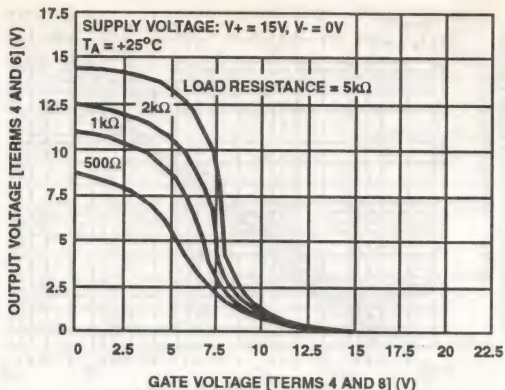
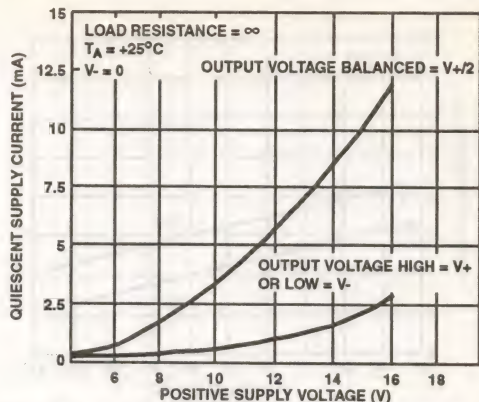
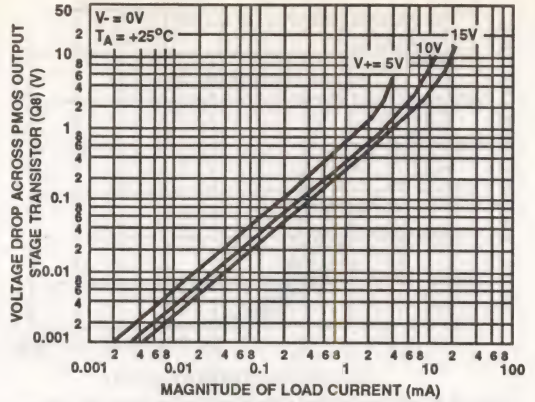

FIGURE 3. VOLTAGE TRANSFER CHARACTERISTICS OF CMOS OUTPUT STAGE
FIGURE 4. QUIESCENT SUPPLY CURRENT vs SUPPLY VOLTAGE
FIGURE 10. VOLTAGE ACROSS PMOS OUTPUT TRANSISTOR (Q8) vs LOAD CURRENT
**Output Stage** - The output stage consists of a drain loaded inverting amplifier using CMOS transistors operating in the Class A mode. When operating into very high resistance loads, the output can be swung within millivolts of either supply rail. Because the output stage is a drain loaded amplifier, its gain is dependent upon the load impedance. The transfer characteristics of the output stage for a load returned to the negative supply rail are shown in Figure 3. Typical op-amp loads are readily driven by the output stage. Because large signal excursions are nonlinear, requiring feedback for good waveform reproduction, transient delays may be encountered. As a voltage follower, the amplifier can achieve 0.01 percent accuracy levels, including the negative supply rail.
**Single Supply Operation:** Initially, let it be assumed that the value of  $R_L$  is very high (or disconnected), and that the input-terminal bias (Terminals 2 and 3) is such that the output terminal (Number 6) voltage is at  $V_+/2$ , i.e., the voltage-drops across Q8 and Q12 are of equal magnitude. Figure 4 shows typical quiescent supply-current vs supply-voltage for the CA5160 operated under these conditions. Since the output stage is operating as a Class A amplifier, the supply-current will remain constant under dynamic operating conditions as long as the transistors are operated in the linear portion of their voltage transfer characteristics (see Figure 3). If either Q8 or Q12 are swung out of their linear regions toward cutoff (a nonlinear region), there will be a corresponding reduction in supply-current. In the extreme case, e.g., with Terminal 8 swung down to ground potential (or tied to ground), NMOS transistor Q12 is completely cut off and the supply-current to series-connected transistors Q8, Q12 goes essentially to zero. The two preceding stages in the CA5160, however, continue to draw modest supply-current (see the lower curve in Figure 4) even through the output stage is strobed off. Figure 16A shows a dual-supply arrangement for the output stage that can also be strobed off, assuming  $R_L = \infty$ , by pulling the potential of Terminal 8 down to that of Terminal 4.
Let it now be assumed that a load-resistance of nominal value (e.g., 2 kilohms) is connected between Terminal 6 and ground in the circuit of Figure 16B. Let it further be assumed again that the input terminal bias (Terminals 2 and 3) is such that the output terminal (Number 6) voltage is  $V_+/2$ . Since PMOS transistor Q8 must now supply quiescent current to both  $R_L$  and transistor Q12, it should be apparent that under these conditions the supply current must increase as an inverse function of the  $R_L$  magnitude. Figure 10 shows the voltage drop across PMOS transistor Q8 as a function of load current at several supply voltages. Figure 3 shows the voltage transfer characteristics of the output stage for several values of load resistance.